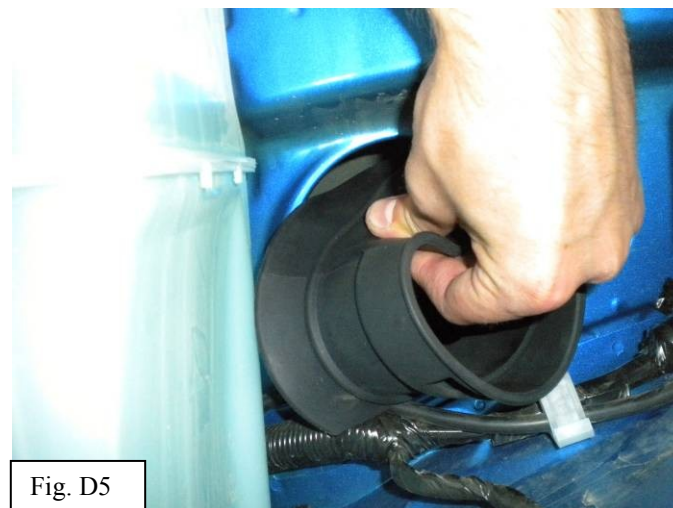

Fig. D5
5. Install the TRD intake flow accelerator by squeezing it through the hole in the inner fender as shown. (Fig. D5)